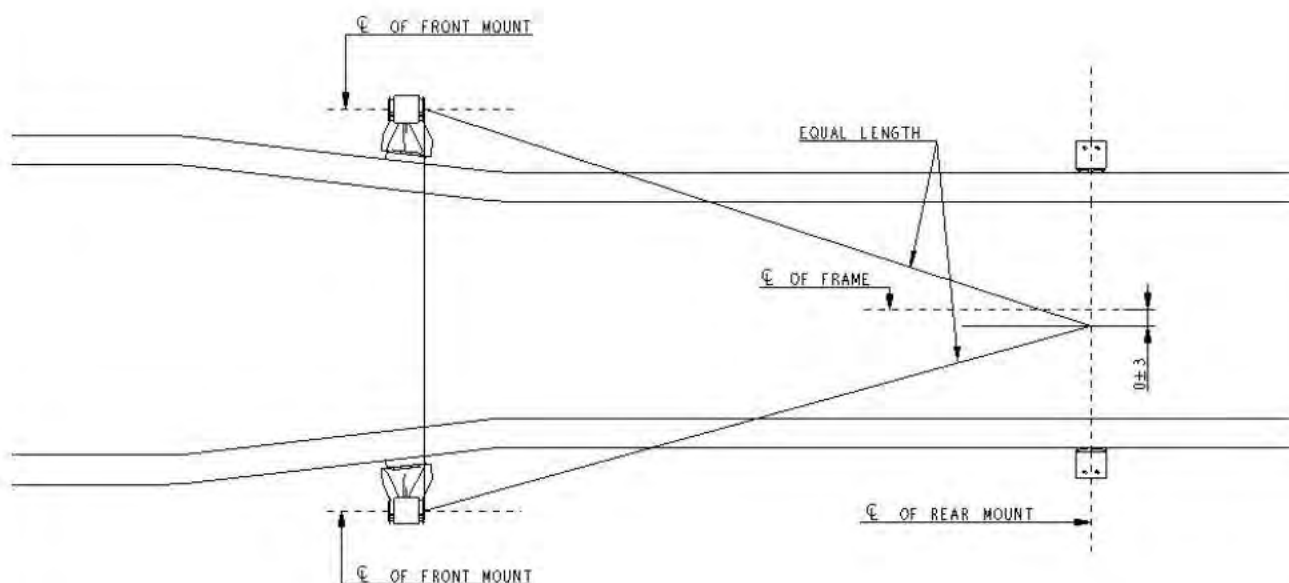

Figure 5 - Squaring Front Cab-Mounts
6. Front Cab Mounting (Figure 5):